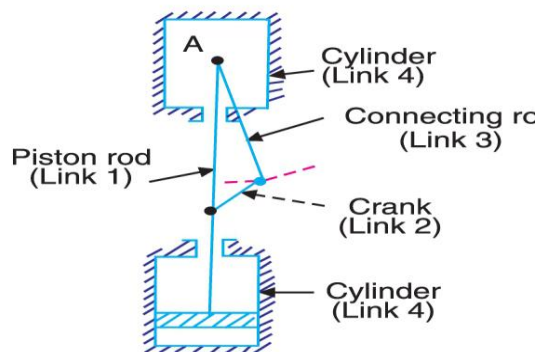

Fig. 5.23. Pendulum pump.
1. Pendulum pump or Bull engine. In this mechanism, the inversion is obtained by fixing the cylinder or link 4 (*i.e.* sliding pair), as shown in Fig. 5.23. In this case, when the crank (link 2) rotates, the connecting rod (link 3) oscillates about a pin pivoted to the fixed link 4 at A and the piston attached to the piston rod (link 1) reciprocates. The duplex pump which is used to supply feed water to boilers have two pistons attached to link 1, as shown in Fig. 5.23.